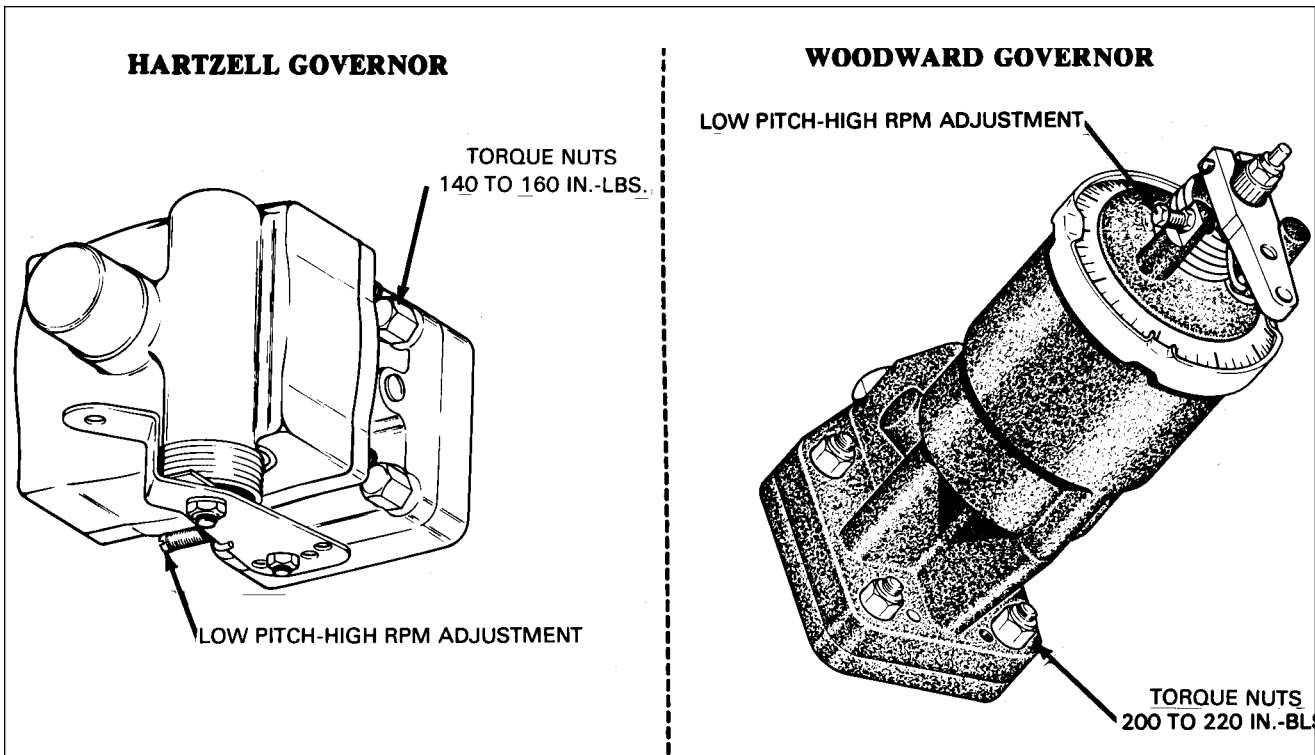

Figure 61-3. Propeller Governor
4. Tighten the mounting bolts evenly and tighten to a final torque as shown in Figure 61-3.
RIGGING AND ADJUSTMENT OF PROPELLER GOVERNOR. (Refer to Figure 61-3.)